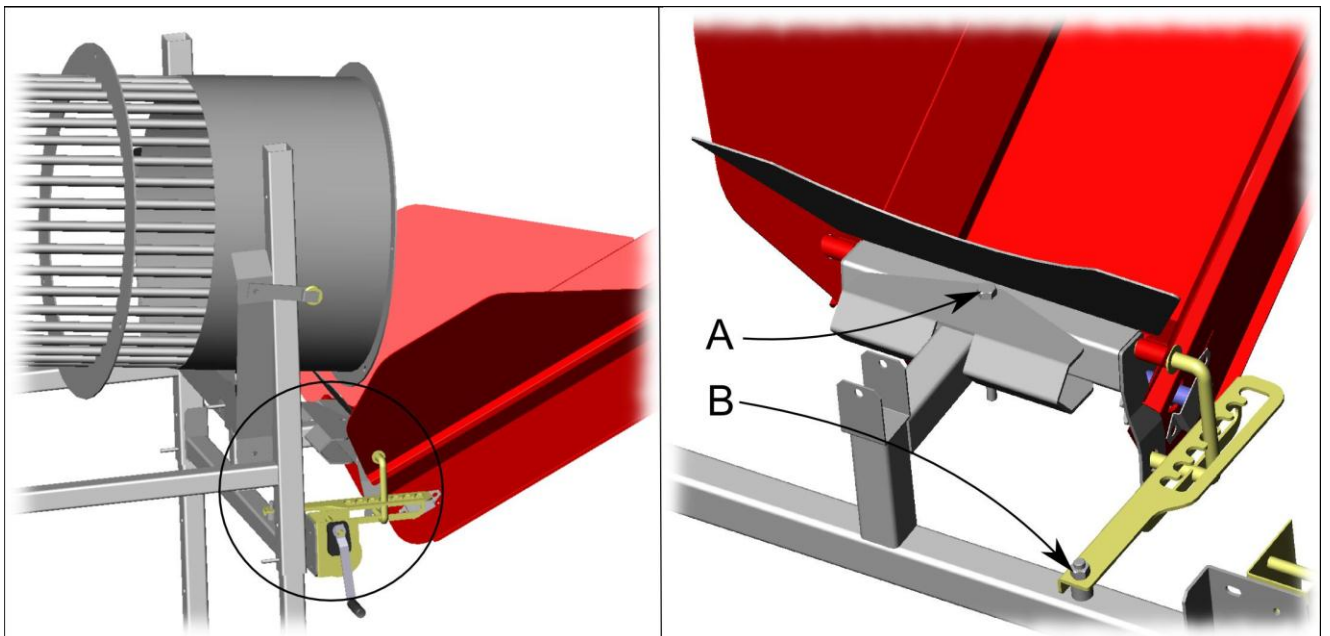

Fig. 4.
- Fix the conveyor to the bearer by hole A (Fig. 4).
- Fix the locking lever for the conveyor to the bearer by point B (Fig. 4)